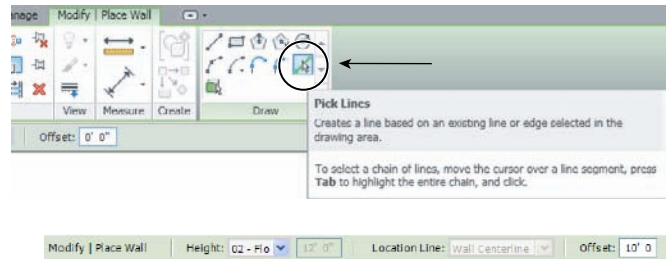

Figure 3.49
4. On the Draw panel, click the Pick Lines draw option (Figure 3.49).